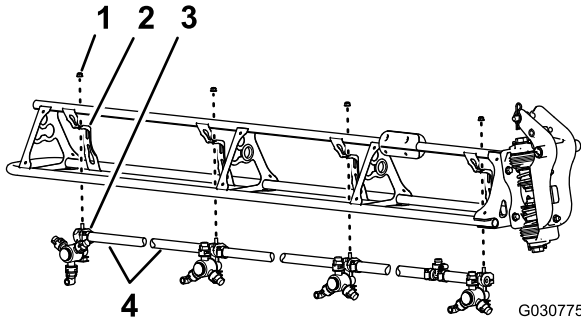

Figure 123
1. Cut the hose between 2 sprayer nozzles (Figure 123).
2. Remove the flange locknut (5/16 inch) that secures the sprayer nozzle to the nozzle support (Figure 123).